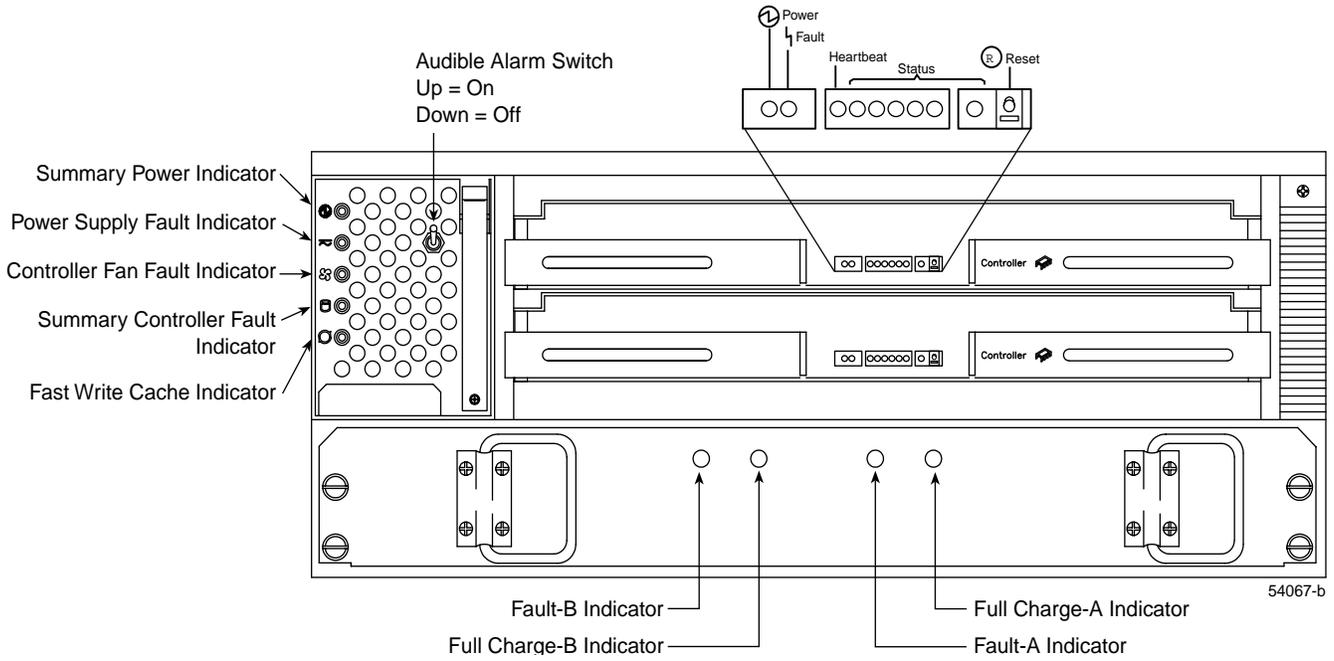

Figure 3-5 Indicator Lights (Front)
It is important that you check all the indicator lights on the front and rear of the controller enclosure when you turn on the power. After you turn on the power, the indicators may blink intermittently. Wait until the controller enclosure completes its power up before checking for faults. Normally, it may take up to 15 minutes for the battery canister to complete its self test and up to 6 hours to fully charge, particularly after an unexpected power loss of more than a few minutes. While the battery is charging, both the Full Charge-A and the Full Charge-B indicators will blink. When the battery is fully charged, these two indicators will glow steadily (Figure 3-5).
2. Check the indicators on the front of the controller enclosure (Figure 3-5 and Table 3-1).
Figure 3-5 and Table 3-1 describe the indicator lights on the front of the controller enclosure.
Note: You have the option of using the audible alarm to warn you of faults (Figure 3-5). The alarm is turned on (in upward position) when shipped. To disable the alarm, flip the switch to the downward position.
- a. Check the controller canister indicators. The green Controller Power indicator should be on and the amber Controller Fault indicator should be off (Figure 3-5 on page 34). If so, go to step 7. If the Controller Power indicator remains off or the Controller Fault indicator is on after a few seconds, make sure that the controller canister is locked into place. If the Controller Fault indicator remains on, go to step b.